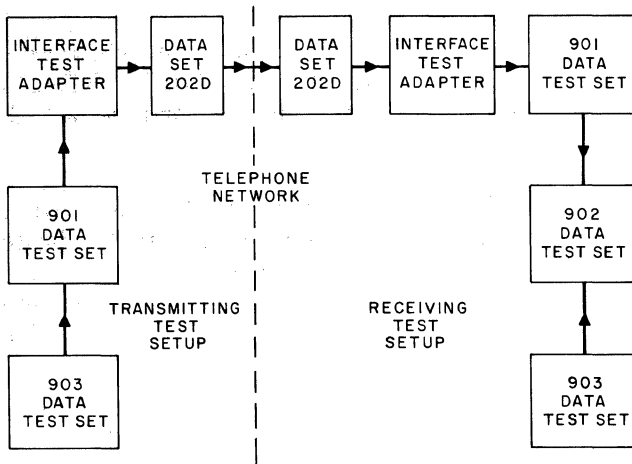

Fig. 6—Block Diagram—End-to-End Test
5.02 A block diagram illustrating the equipment set up for end-to-end tests is shown in Fig. 6.